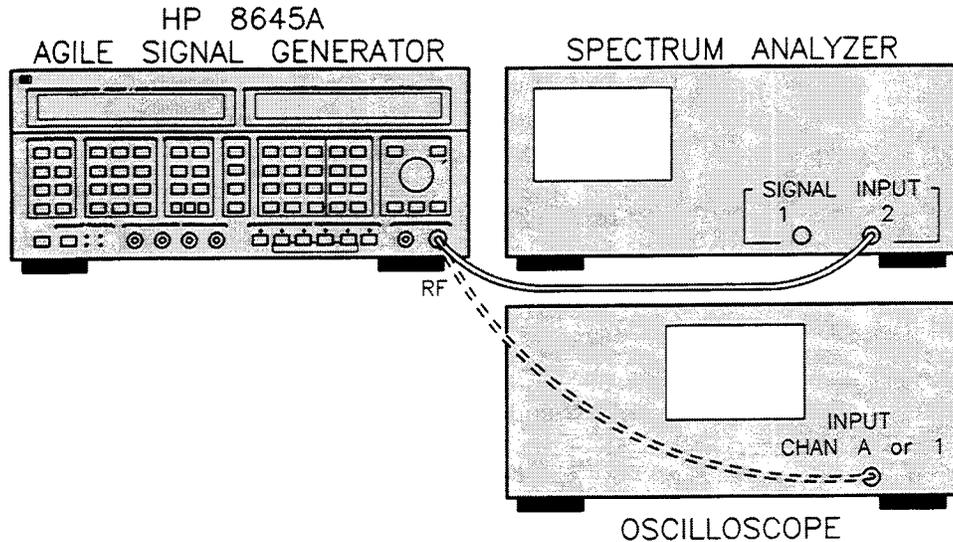

Figure 2-5. Equipment Setup for AM Procedure #1.
1. Connect the HP 8645A to the Spectrum Analyzer (or Oscilloscope) as shown in figure 2-5. Turn on the equipment, and make the following adjustments: